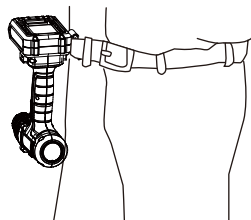

Fig. 19
3. The belt clip (9) can be hooked on your belt or pocket, etc (Fig. 19).